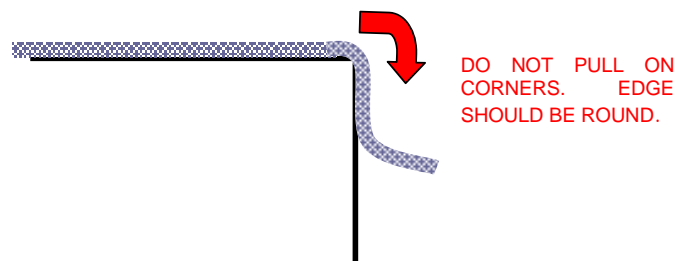

Fig 2
- ❑ Slowly peel off enough backing paper to cover the edge and side of duct. Slowly pad the adhesive to the edge; **DO NOT PULL THE INSULATION ON THE DUCT CORNERS**. Guide the insulation over the corner by pressing *lightly* (Fig 2). The insulation on the corners should be the same thickness as on the flat sections.